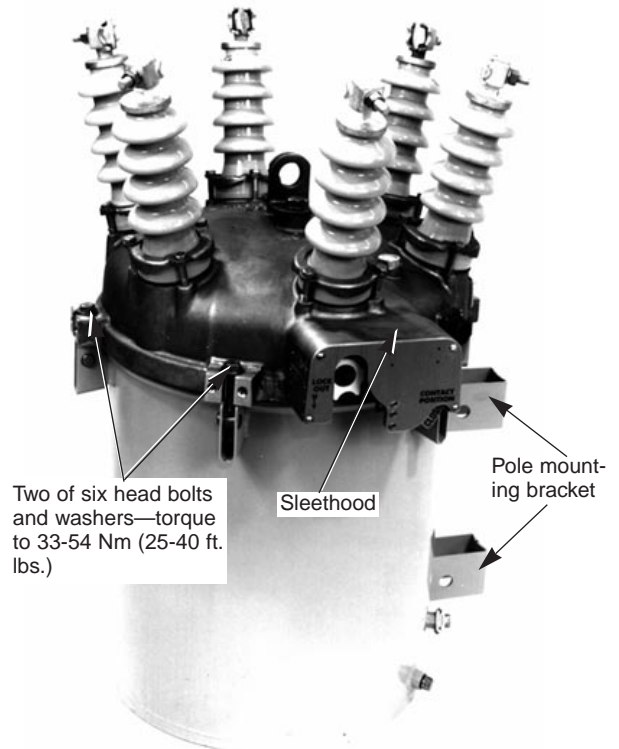

Figure 20.
- B. The sleethood should be located at 90° to the tank pole mounting bracket (refer to Figure 20).